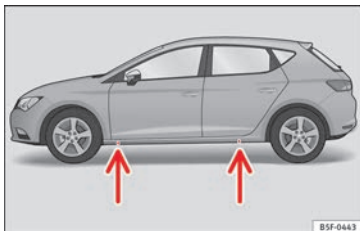

Fig. 186 Crossbar: marks.
- Find the support point on the strut (sunken area) closest to the wheel to be changed » » » Fig. 186. The jack* support point is behind the mark on the strut.